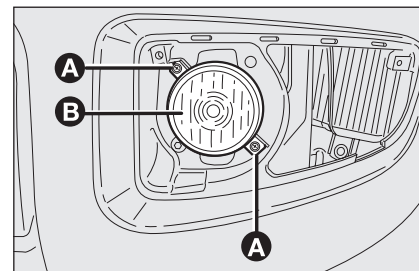

fig. 19
- loosen the fastening screws **A**-fig. 19 and remove the lens **B**;